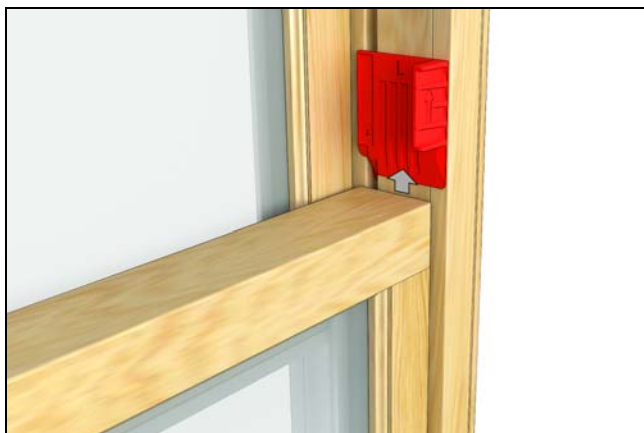

Figure 6
2. Remove shipping clips by pulling upward to release them. See Figure 6.